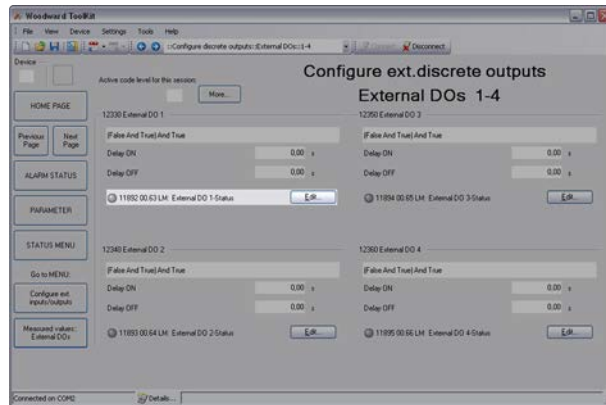

Fig. 216: Setup of external DOs
- ➔ Set up the external discrete outputs using the Toolkit screen shown in ( Fig. 216).